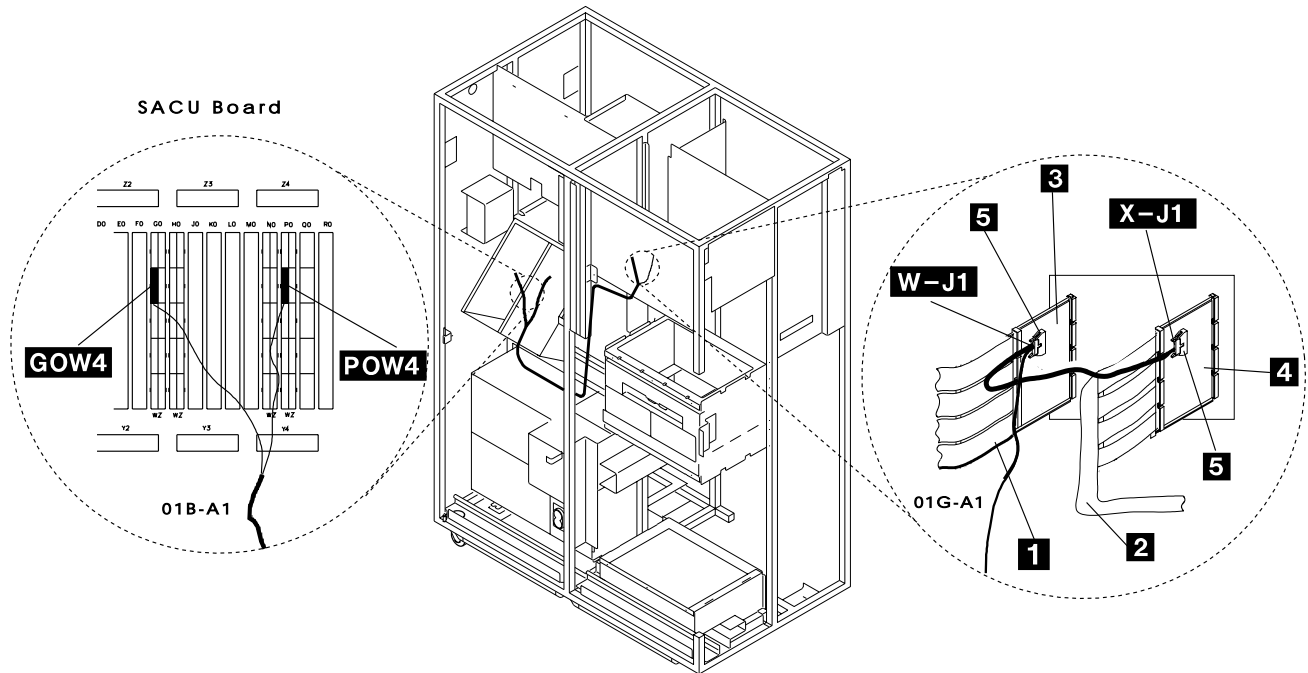
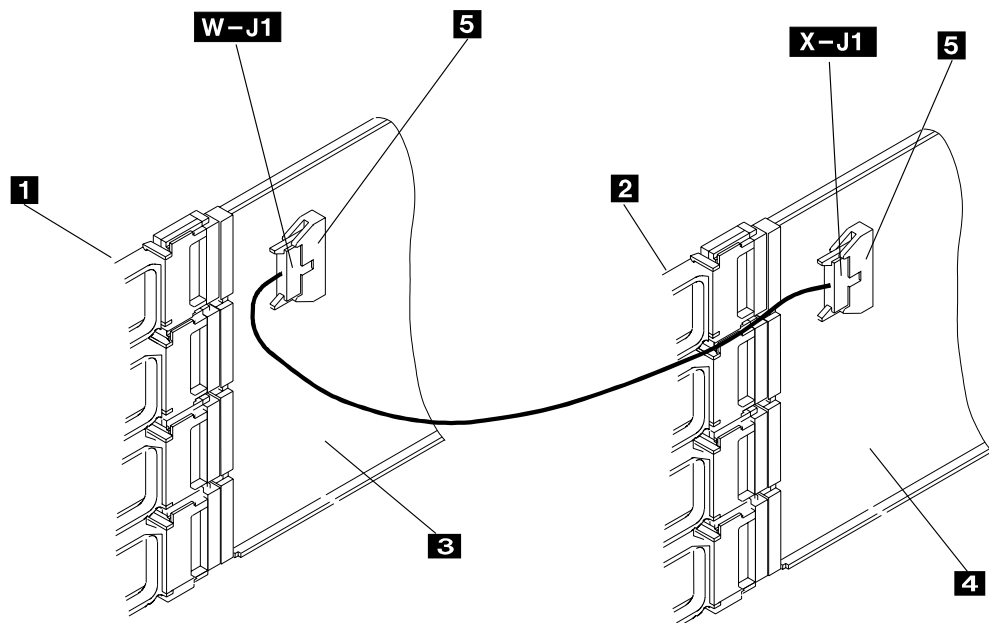

Figure 4-26. Cable 2 (PN 43G3181) Routing on a TSST Board
Figure 4-27. Cable 1 (PN 43G3180) Routing on a TSSB board
- Step 4. \_\_\_\_ Take a DICO card (PN 17G6080) , remove the four interposers plugged on top of the card , while holding the card in your hand, plug the DICO cable 1 (or 2) lead **X-J1** to connector **5** of the DICO card PN 17G6080. (see Figure 4-26 or Figure 4-27).
- Step 6. \_\_\_\_ Position the DICO card **4** in location 01G-A1 X02, and the DICO card **3** in location 01G-A1 W02 (see Figure 4-26 on page 4-27 when plugging the card into a TSST board or see Figure 4-27 on page 4-27 when plugging the card into a TSSB board).